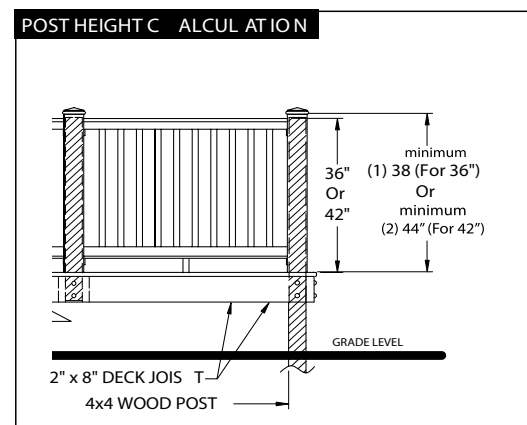

Figure 2
- Calculate and cut Post Sleeve to required height (see Figure 2). Slide Post Sleeve over 4" x 4" wood post into position. For 36" rail, cut Post Sleeve to a minimum of 38". For 42" rail, cut Post Sleeve to a minimum of 44".